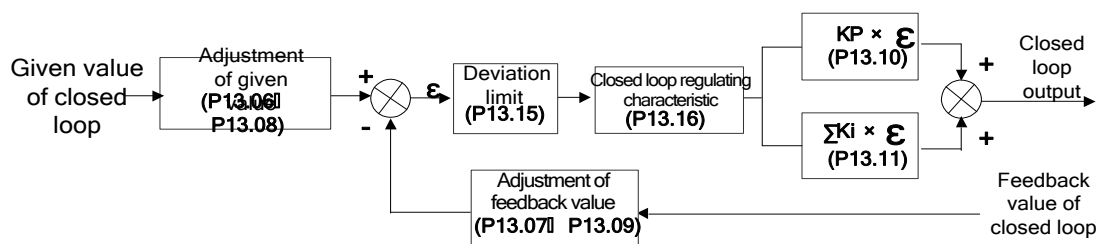
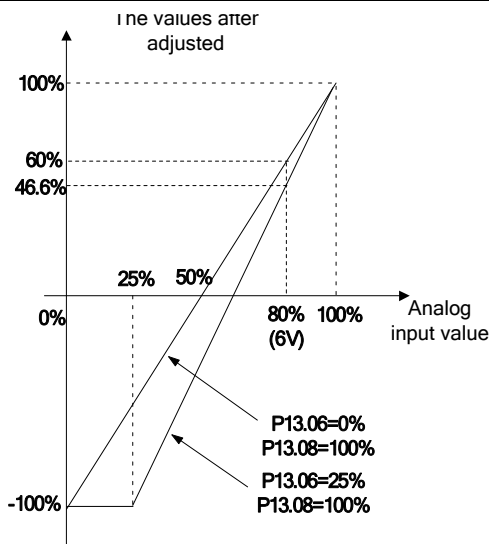

Fig.6-61 Schematic Diagram of Process Closed Loop Control
Fig. 6-64 Given Value Adjustment Curve Diagram
The block diagram of working principle of HSD2000 built-in process closed loop is given in Fig. 6-61; KP: proportional gain; Ki: integral gain.
In Fig. 6-61, the definitions of given value, feedback value, deviation limit and proportional integral parameters of closed loop are the same as ordinary closed loop regulation meaning, respectively see P13.01~P13.15 definitions.
The meaning of adjustment of given value and feedback value in Fig. 6-61 is that given value and feedback value adopt internal unified value.
The relation of given value adjustment in P13.06 and P13.08 in Fig. 6-61 is as shown in Fig. 6-64. When analog input is 6V, if P13.06 = 0% and P13.08 = 100%, the converted value after adjustment is 60%; if P13.06 = 25% and P13.08 = 100%, the converted value after adjustment is 46.6%.
- As shown in Fig. 6-64, scaling analog input of horizontal axis 0% ~ 100% is -10V ~ 10V; analog input 10V corresponds to 100% and -10V corresponds to 0%, and 6V corresponds to 80%.
As shown in Fig. 6-61, the relation curve of feedback value adjustment in P13.07 and P13.09 is relative to the adjustment of given value. The values after adjusted can be observed by the function code P01.29.